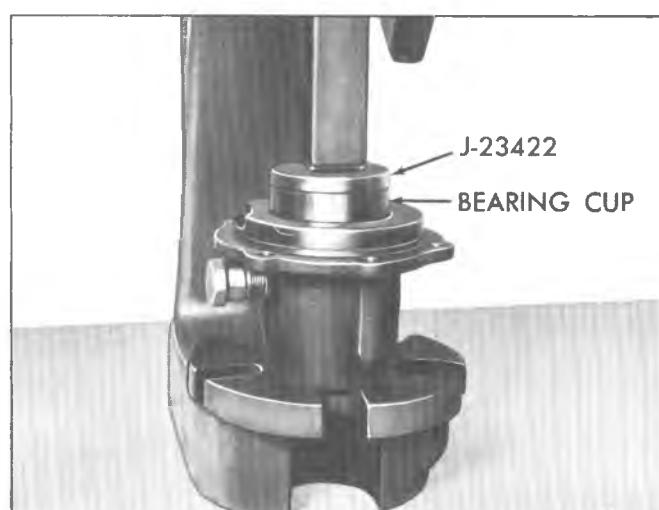

Fig. 10D-Installing Rear Output Shaft Front Bearing Cup
- bore using Tool J-23423 as shown in Figure 10D until cup seats in housing.